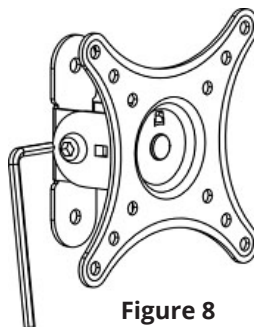

Figure 8
3. Adjust the tension of the joint using the supplied 5mm Allen Key (Figure 8).